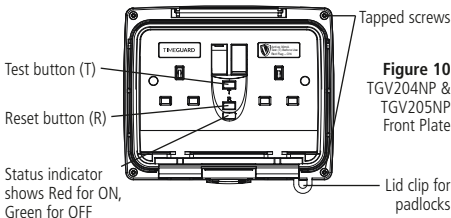

Figure 10
2. Using a Philips screwdriver, separate the faceplate from the back box by removing the four tapped screws located in each corner. See figure 10 & 11 for your chosen product